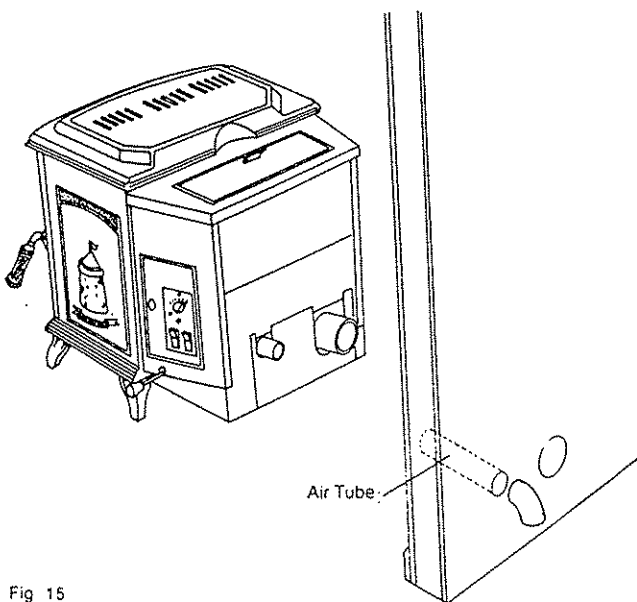

Fig 15
- B. If connecting to an outside air supply cut a separate hole through the wall for the fresh air tube, this tube must be 1 - 15/16" (27mm) minimum diameter steel only (straight or flexible). PVC pipe or aluminium pipe should never be used. (see Fig 15).